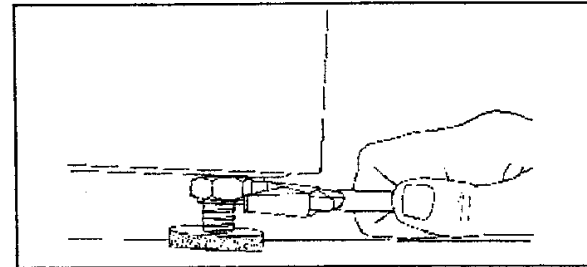

Figure 1-2
5. While holding foot still, turn the adjusting locknut clockwise until the nut is tightened firmly against base. **(Figure 1-2)**